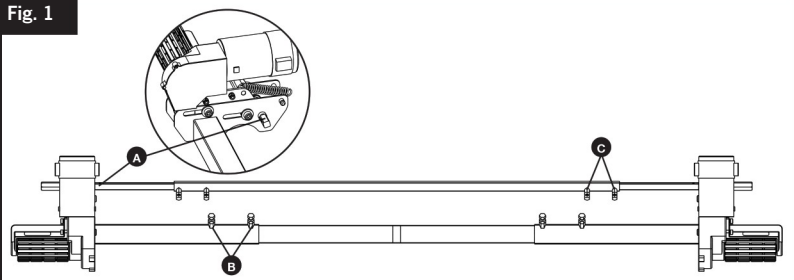
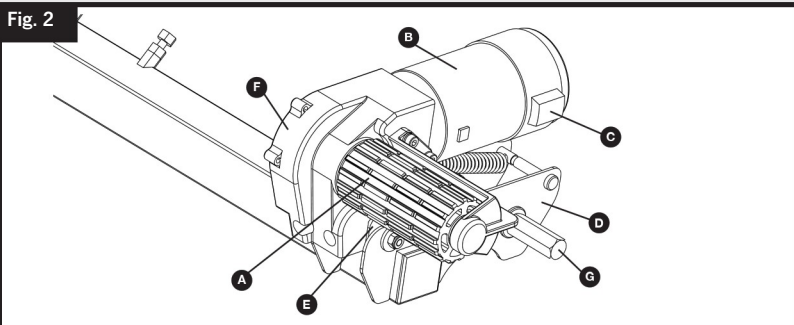
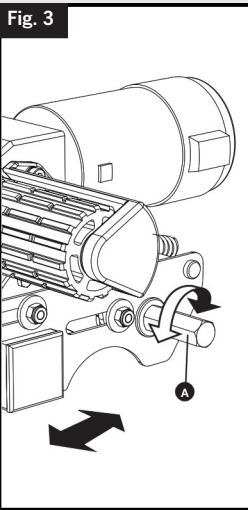

Fig. 2
Fig. 3
Fig. 4
Unpack all of the components and check that all parts are present (see Package Contents Fig.A). The installation instructions will continue to reference the part numbers displayed in Fig.A. Prior to and throughout the installation, ensure that the movers remain in the DISENGAGED position (Fig. 4), as the unit will not fit correctly otherwise.
With the main assembly loosely fitted onto the chassis, slide the whole assembly along the chassis until the rollers (Fig.2.A) are 20mm away from the surface of the each tyre (see Fig.4). Two 20mm spacers (30) are provided to set this distance. Note that the movers should be in the disengaged position when the 20mm spacing is set. When setting the spacing, ensure that the rollers on both movers are centrally in line with the vehicle tyres both horizontally and vertically, to allow for the best possible wheel contact (see Fig.6 for reference). If the roller widths exceed that of the tyre, ensure that the end of the roller is aligned with the outer wall of the tyre. Overhang on the inside wall of the tyre is acceptable on thinner tyres, and should not drastically affect function or grip.
With the Cara-Move, the process of engaging is a manual one. To engage your motors, place the engagement tool (6) onto the motor spindle (Fig.2.G) parallel to the ground at a position facing away from the wheel in question. To engage the motor, rotate the engagement tool through 180deg rotating toward the wheel in question (Fig.3). If you cross actuation bars have been mounted correctly, the process of engaging one mover, should subsequently also engage the opposite side of the vehicle.
To disengage the rollers, simply refit the tool onto one of the spindles and rotate away from the tyre. Please note that you will feel a small amount of resistance initially as you disengage the cam from its locked position; the spring will then do the rest of the work and pull the roller away from the tyre and into the fully disengaged position (Fig.4).